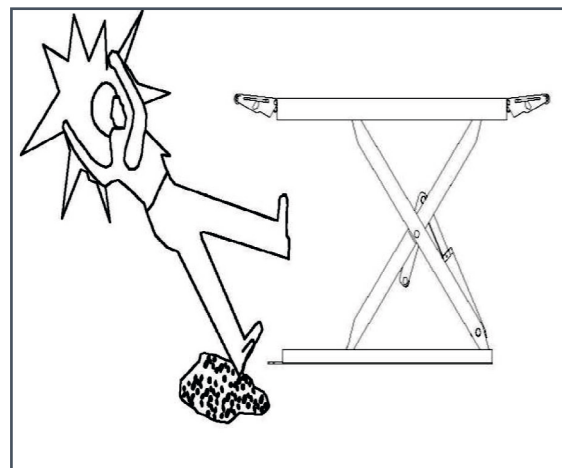

Figure 11
**RISQUE DE CHUTE - VÉHICULE (Figure 11)**